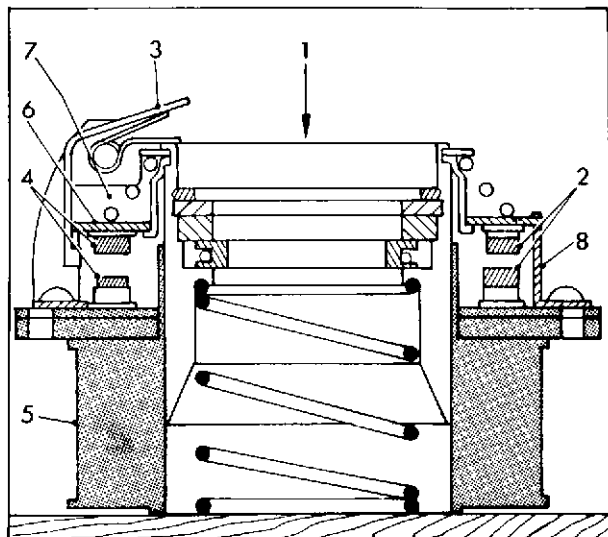

Fig. 13 Checking switch unit operation
3. To check that the switch is operating correctly, stand the plunger return spring on the bench and place the solenoid switch unit over it, coil downwards, as shown in fig. 13. Apply downward pressure to the top of the plunger (1) and check that the first stage contacts (2) close.
4. Maintain the pressure and depress the trigger (3); the second stage contacts (4) should now snap together. Hold the coil (5) firmly against the bench and release the downward pressure on the plunger. The moving contact plate (6) should be moved upwards by the plunger return spring so that it locates behind the step on the trigger.